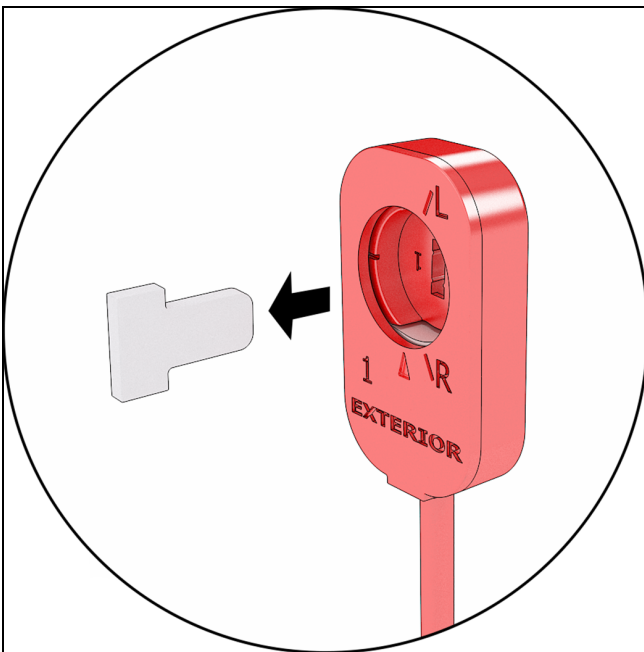

Figure 51
5. On all doors with keyed cylinders. Remove the t-shaped adapter from the micro-switch located on the exterior side of the panel. Use a needle nose pliers and discard. See Figure 51.